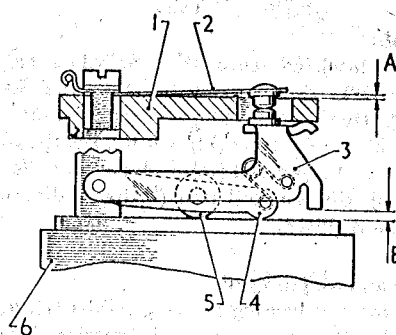

Fig. 11. The rocker finger settings on modified rocker assemblies
22. Check the lift of the contact blade tip above the top of the pedestal (A) (Fig. 11) with a feeler gauge, bending the stop-finger beneath the pedestal, if necessary, to obtain a lift of  $.035 \pm .005$  in. ( $.9 \pm .13$  mm.).